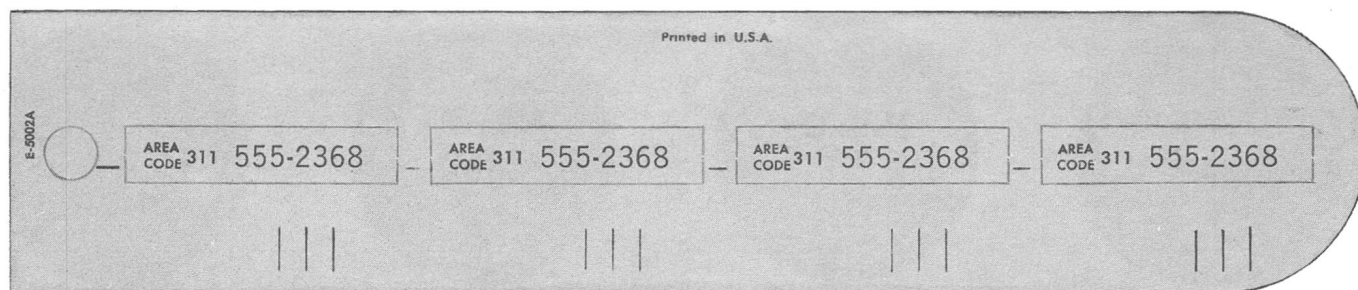

Fig. 4—Form E-5002A (Quantity of Four)
2.05 Form E-5002A (Fig. 4) and E-5002B are used on TOUCH-TONE nonmodular telephone sets and TRIMLINE® telephone sets. E-5002B is the same as E-5002A except it includes **EXT.**